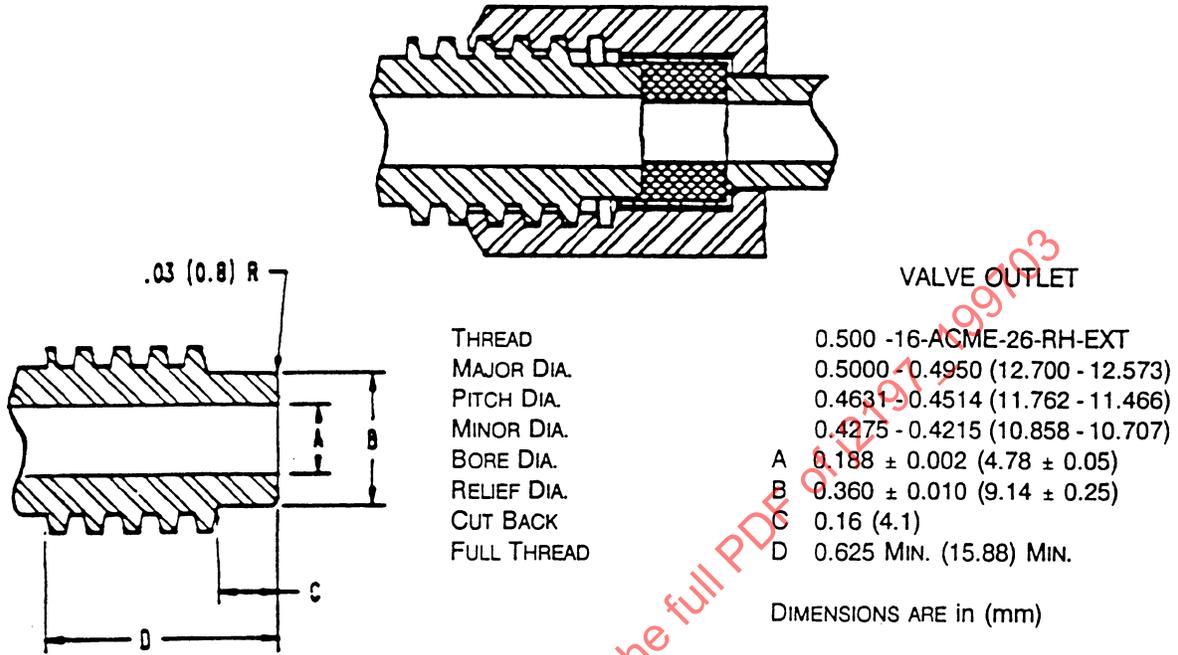

FIGURE 2—0.500 in—16-ACME-2G-RH-EXT
**3.1 0.500 in x 16-2G ACME—Right Hand Thread, Cylinder Valve Outlet Connection**—Compressed Gas Association, Inc. Connection No. 167. (Figure 2)